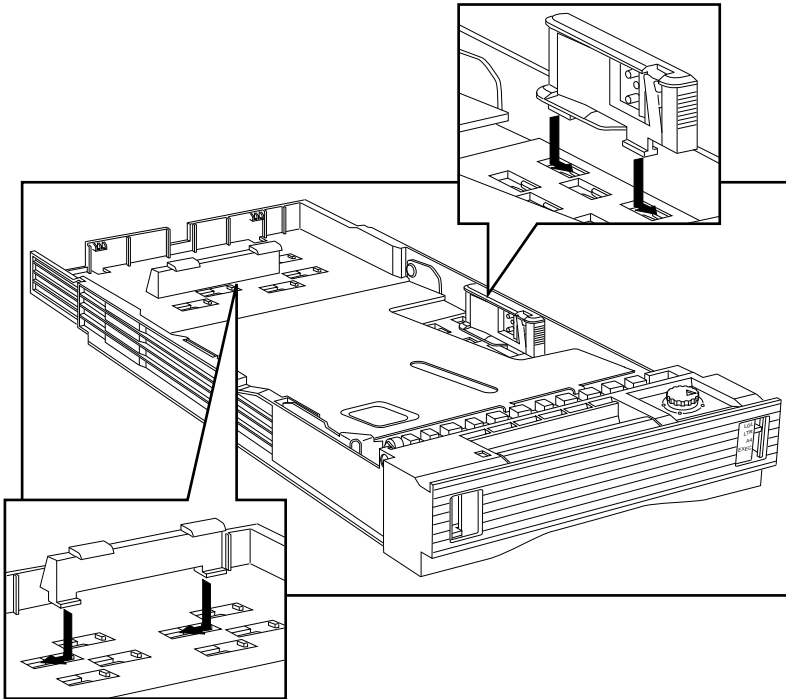

Fig. 9.2 Replace the Paper Size Guides
- b. Replace the length guide by placing it in the slots for the desired length and sliding it to the left until it locks in place (fig. 9.2). Replace the width guide by placing it in the slots for the desired width and sliding it back until it locks in place (fig. 9.2).